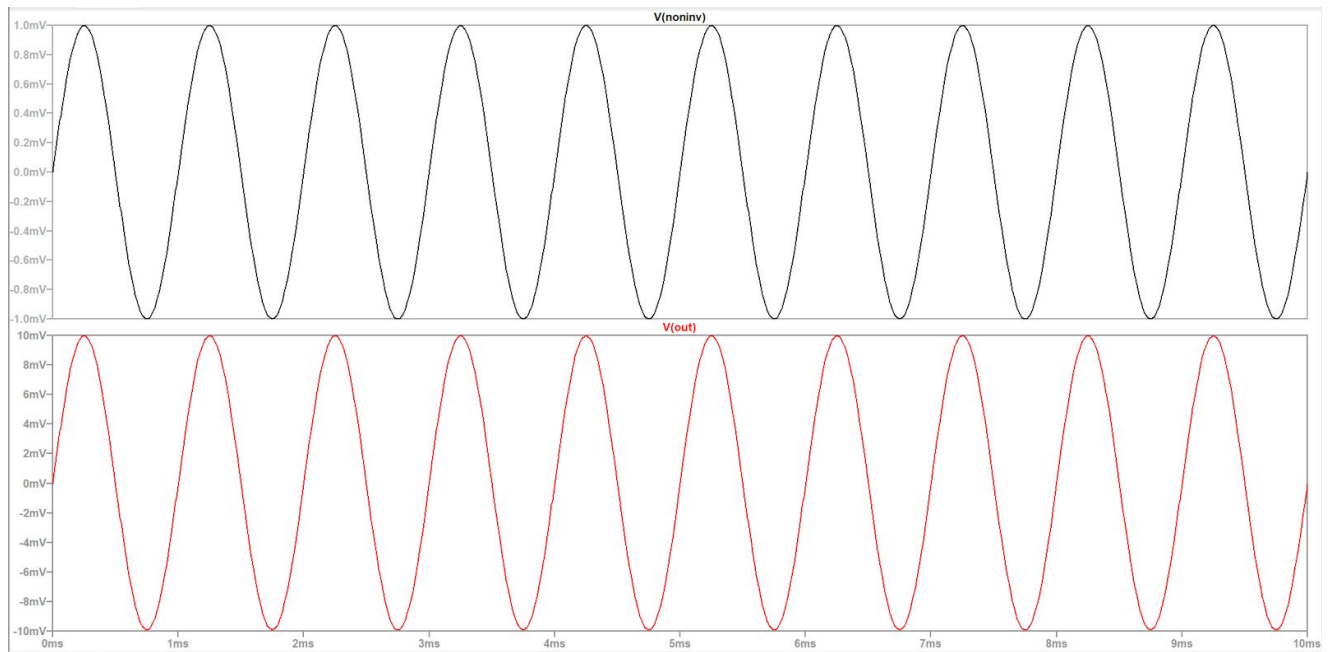

**Fig.9:transient response of inverting configuration with  $R_2=300\text{ k}$  and  $R_1=1\text{ K}$
- c. With clipping when  $R_2/R_1=300$  and input signal with amplitude 10mV(Fig.9)